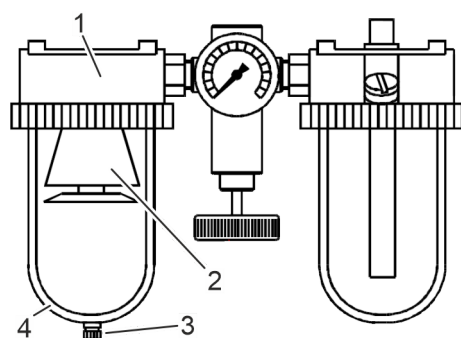

Fig. 25: Water separator
1. ➔ Open the condensate drain (Fig. 25/3) and collect the condensate.
2. ➔ Close the condensate drain (Fig. 25/3).
3. ➔ Unscrew the condensate tank (Fig. 25/4) if it is dirty.
4. ➔ Clean the condensate tank (Fig. 25/4) in the proper manner. Note the cleaning guidelines in the operating instructions for the service unit for compressed air.
5. ➔ Screw on the condensate tank (Fig. 25/4).
Ensure that the condensate drain (Fig. 25/3) is closed.
If it is dirty, clean the filter (Fig. 25/2) as follows:
1. ➔ Unscrew the condensate tank (Fig. 25/4).
5. ➤ Put the filter (Fig. 25/2) back in. In doing so, ensure a flawless seal.
6. ➤ Screw on the condensate tank (Fig. 25/4).